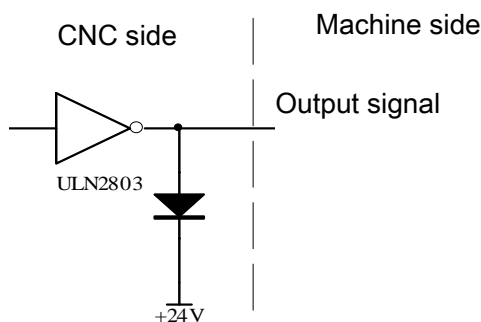

Fig. 2-36
- TL+, TL- are tool post CCW/CW output signal, its interior circuit is shown in Fig.2-36: